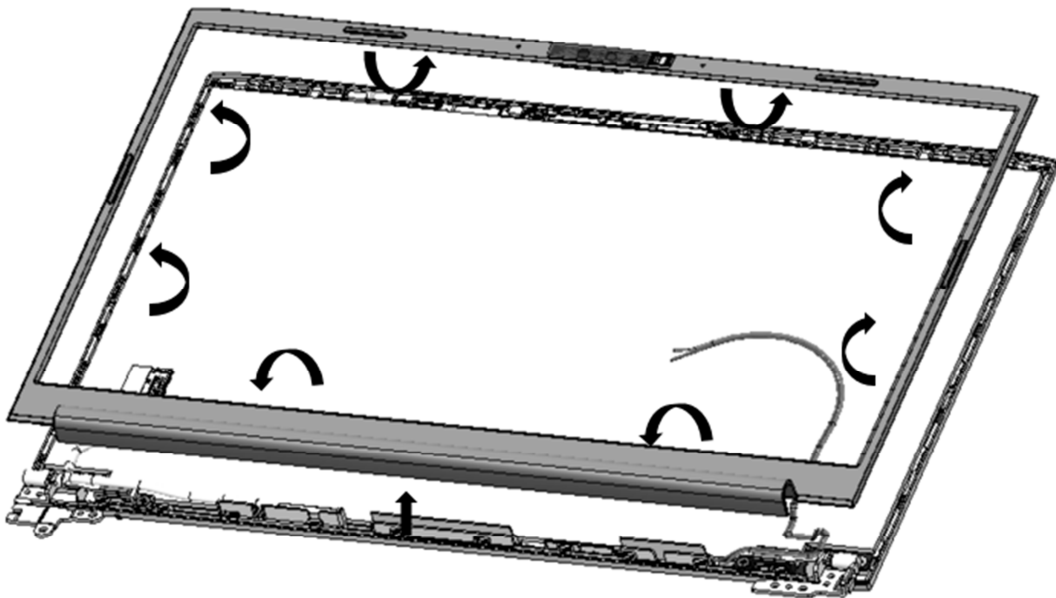

Figure 4-19 Removing the Bezel
Remove the Bezel according to the following procedures and Figure 4-19.
2. Insert a smooth, flat instrument into the gap between the Bezel and the LCD cover as shown in Figure 4-19, and then gently twist the instrument to pry up the Bezel from the LCD cover.